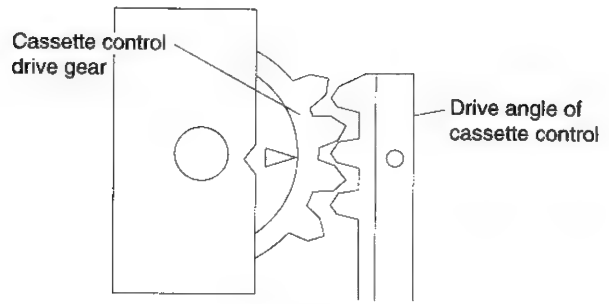

Figure 4-2.
1. Before installation of the cassette housing control assembly, make a short-circuit between TP5005 and TP5006, both located at the center on your side on the main PWB, with a 22 ohm resistor. Plug in the power cord. The cassette control drive gear starts and stops just when a tally mark appears in the mechanism chassis window. Align this tally mark with the cassette control drive angle's mark, as shown in Fig. 4-2, to position the cassette control on the mechanism chassis.